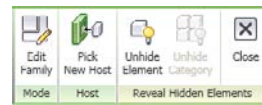

Figure 2.13
3. On the ribbon in the Reveal Hidden Elements panel (Figure 2.13), click Unhide Element or Unhide Category.